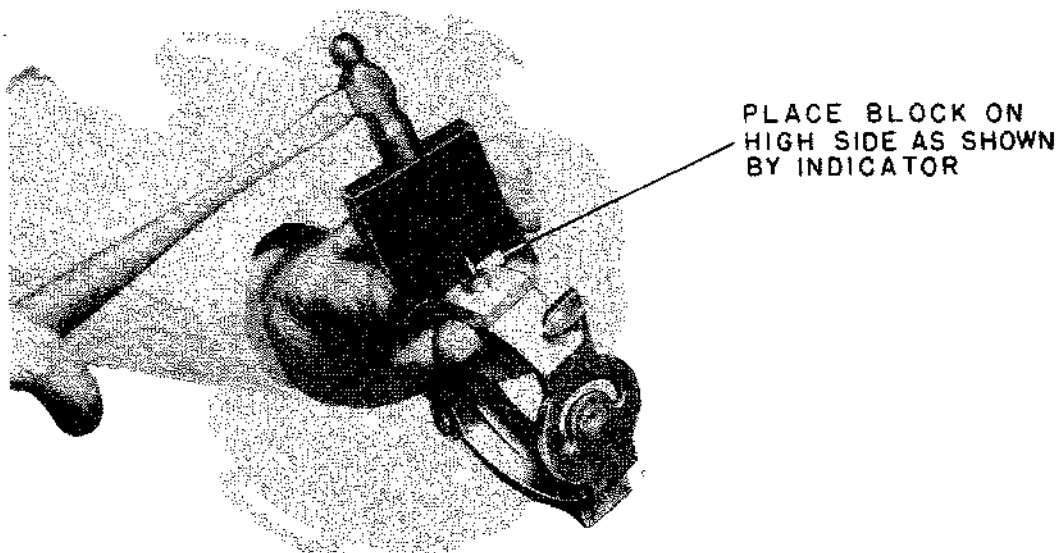

FIGURE 25 METHOD OF ALIGNING THE AIR PIVOT IN THE GIMBAL RING
2. If greater errors are shown, remove the gimbal ring from the fixture, place a bakelite block against the shoulder of the pivot at the high spot and tap the block lightly with a hammer in order to move the pivot into better alignment. (See Fig. 25) Check for tightness, using fixture T-22023, as instructed in paragraph 9, above, and replace in fixture T-19660, to indicate again. Repeat operations until pivot is found to be within the limits given.